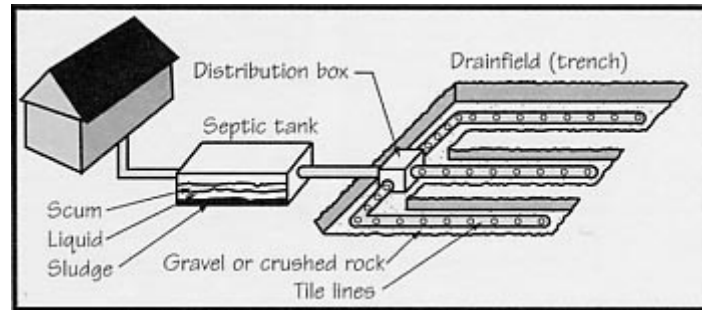

Figure 2. Illustration courtesy of the United States Environmental Protection Agency.
**Drainfield (Trench)** (Figure 2): A solid pipe leads from the septic tank to a distribution box where the wastewater is channeled into one or more perforated pipes set in trenches of gravel. Here the water slowly infiltrates (seeps) into the underlying soil. Dissolved wastes and bacteria in the water are trapped or adsorbed to soil particles or decomposed by microorganisms that occur naturally in the soil. These processes remove disease-causing organisms, organic matter, and most nutrients (except nitrogen and some salts). The purified wastewater then either moves to the groundwater or evaporates from the soil. Trench systems are the most common type of system used in new home construction.